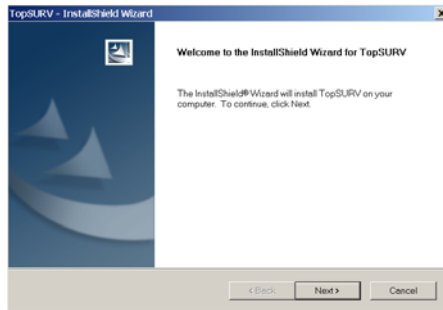

Figure 1-1. Welcome Screen
1. Run TopSURVSetup.exe on your computer. The **Welcome** screen displays (Figure 1-1).